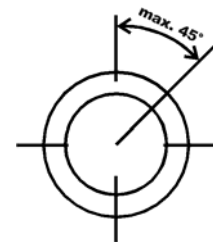

Fig. 1
- ⇒ The switches should only be installed in a vertical position, deviation max. 45° (Fig. 1).